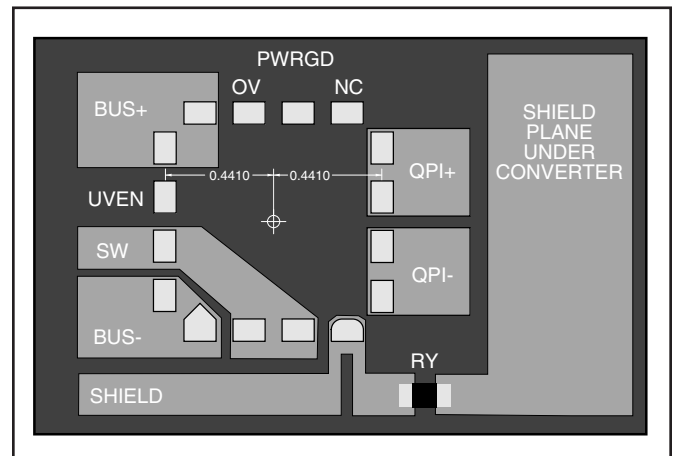

Figure 15 – Recommended PCB layout pattern.
**Note 1:** Refer to Figure 15 and QPI application note QPI-AN1 for general PCB layout guidelines to achieve this thermal resistance when reflowed onto the PCB.
(Refer to Figure 15 and QPI-AN1 application note for general PCB layout guidelines).
Figure 15 shows how this can be accomplished by using the QPI-8's shield pin to bridge the connection between RY and PE without allowing any parasitic paths that might circumvent the QPI-8 and degrade filtering performance. Reference can be made to the QPI-AN1 application note for critical PCB layout recommendations regarding filter performance, but use the QPI-8 pin/pad locations. Some systems may require the converter's positive or negative input or output 'terminal' to be connected to PE (Protective Earth) ground for safety or other considerations.